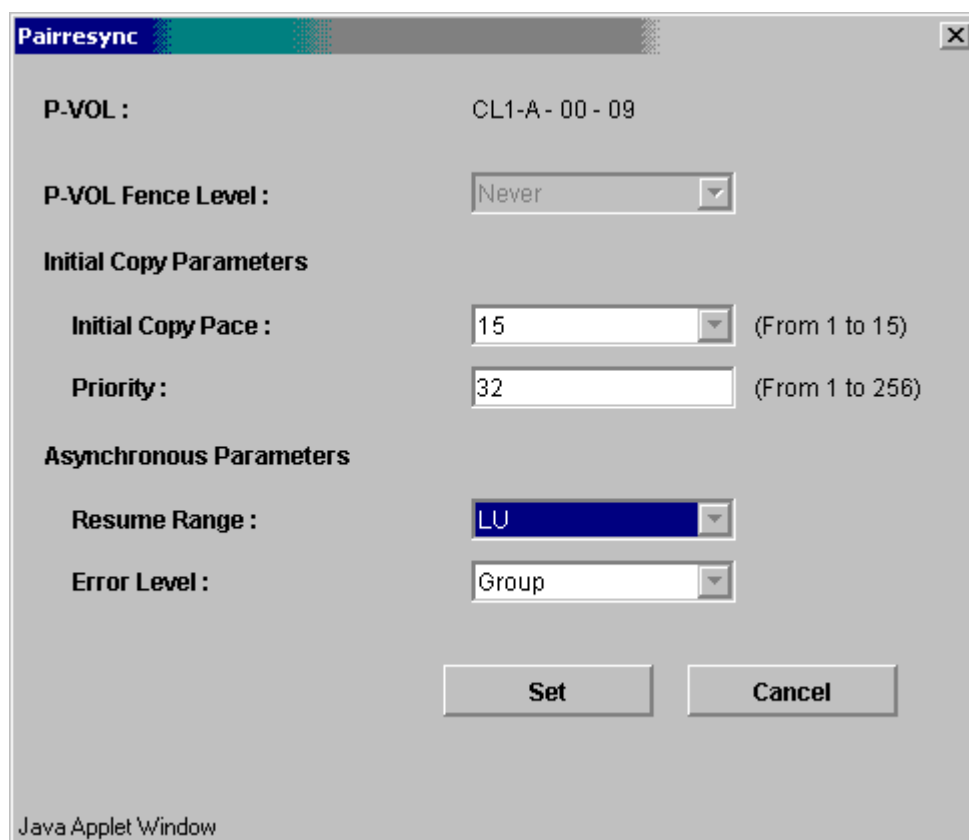

Figure 5.13 Pairresync Panel for Synchronous and Asynchronous Pairs
The Pairresync panel (see Figure 5.13) allows you to resume split and suspended TrueCopy pairs and select the pairresync options. To open the Pairresync panel, select the **Pair Operations** tab, select any item in the outline list (subsystem, CU image, or port), select the desired pair(s), right-click, and then select **Pairresync**.
5. Right-click, and select **Pairresync** to open the Pairresync panel (refer to Figure 5.13).